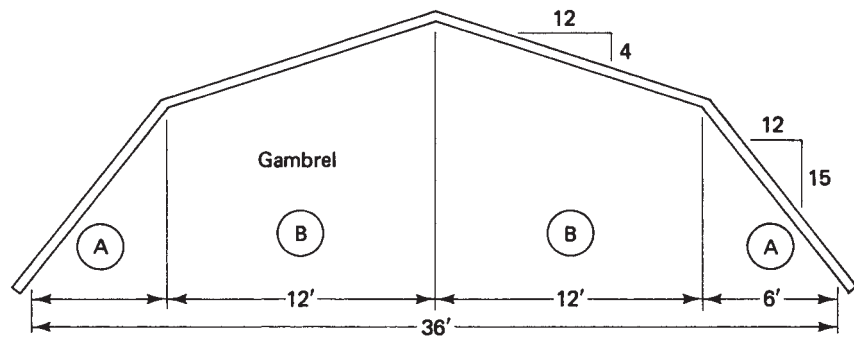

Figure 24-2
- B. The building in Figure 24-2 shows a gambrel roof. The 15/12 slope has a run of 6 ft; the $\frac{4}{12}$ slope has a run of 12 ft; the building width is 36 ft. Determine the following materials for both ends of the building: (a) number of studs and their lengths to frame the ends; (b) number of sheets of $\frac{1}{2}$ -in. CDX sheathing to close in the ends; (c) number of squares of cedar shingles to side the ends.